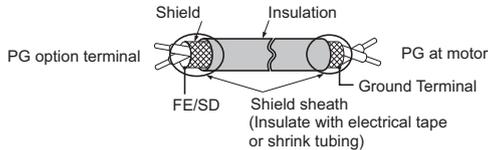

Figure 6 Preparing Ends of Shielded Cable
4. Prepare wire ends as shown in Figure 6. Refer to Wire Gauges and Tightening Torques on page 18 to confirm that the proper tightening torque is applied to each terminal. Take particular precaution to ensure that each wire is properly connected and wire insulation is not accidentally pinched into electrical terminals.